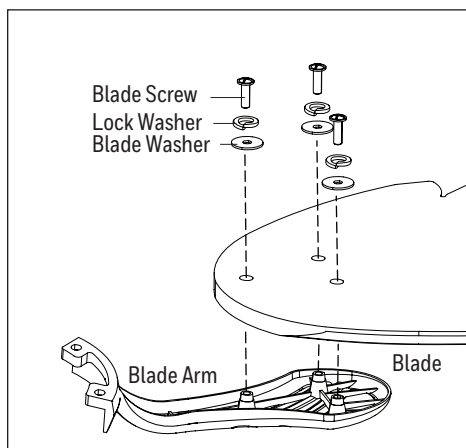

Figure 5.4
4. Partially insert the blade screws along with lock washer and blade washer through blade and into the blade arm. Tighten each blade screw starting with the one in the middle (Figure 5.4). Repeat this step for the remaining blades and blade arms (Figura 5.4).